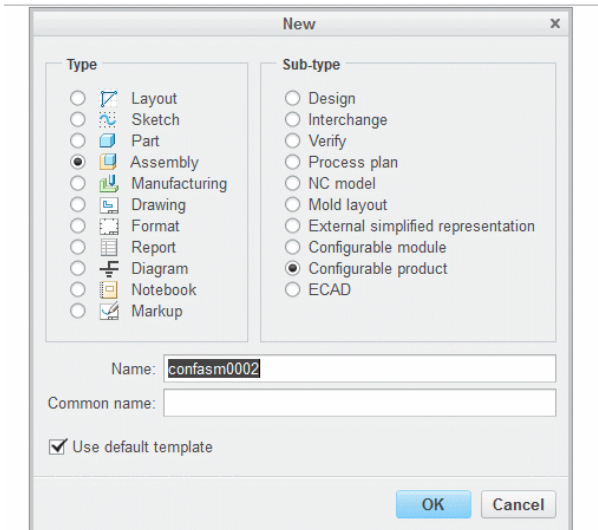

Figure 1 Configurable Product
3) Now design the assembly. Notice that it's a new type of assembly: Configurable product. See fig. 1 Keep the suggested assembly name: confasm...